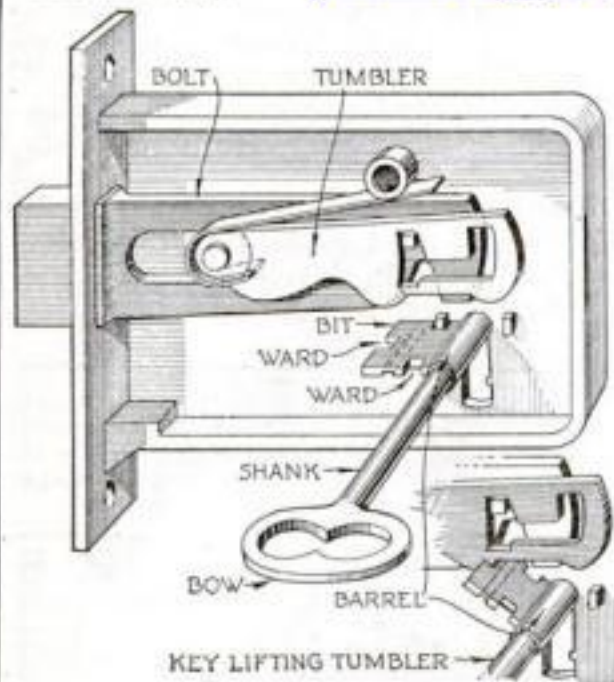

Fig. 2. A typical common door lock. The key raises the tumbler, then moves the bolt
**W**HEN a duplicate door key is needed or a broken or lost key must be replaced, the handy man usually can file a blank key to fit the lock, if he knows how to go about it. Indeed, it is easy to file keys for the common tumbler locks (Fig. 2), and even make duplicate keys for pin tumbler locks when necessary (Fig. 1).